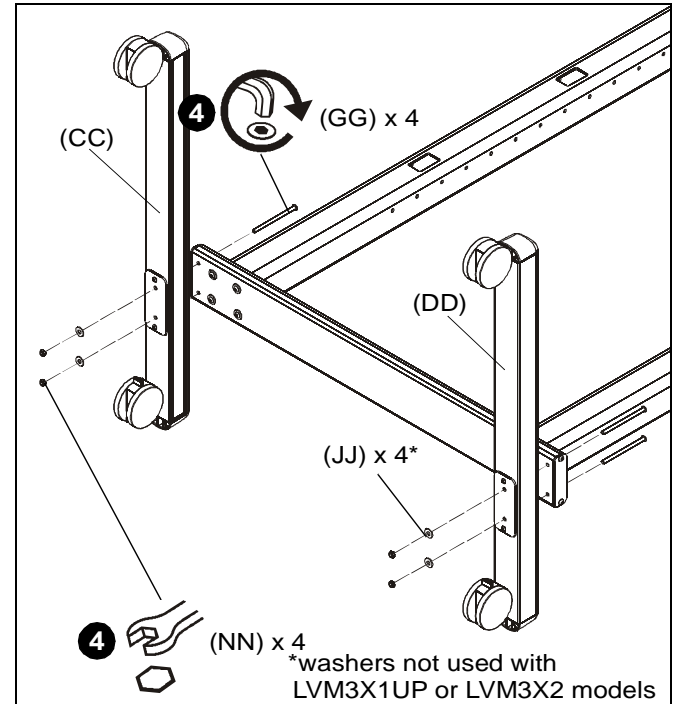

Figure 2
4. Use four 5/16-18 x 5" button head cap screws (GG), four 5/16" washers (JJ) (not for LVM3X1UP and LVM3X2UP models) and four 5/16-18" lock nuts (NN) to secure right and left legs (CC and DD) to cross bar (J). (See Figure 2)